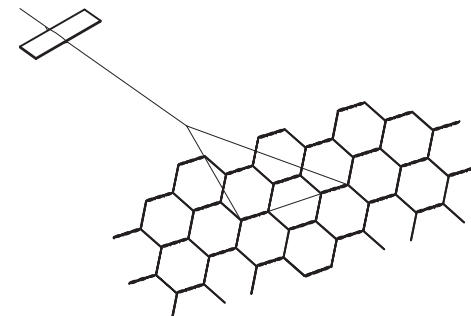

FIGURE 10
3. USE APPROXIMATELY 2,3 - 2,7m OF BINDING WIRE PER BRACE FOR A 1M GABION AND 3,3 - 3,7m FOR A 1,5m GABION. THREAD THE WIRE AROUND TWO MESH OPENINGS ON THE FRONT AND THE REAR FACES OF THE BASKET AND TWIST THE ENDS TOGETHER IN THE MIDDLE. TENSION THE BRACE BY WINDLASSING WITH A PLIER HANDLE UNTIL THE FRONT FACE IS IN LINE. (FIGURE 10)